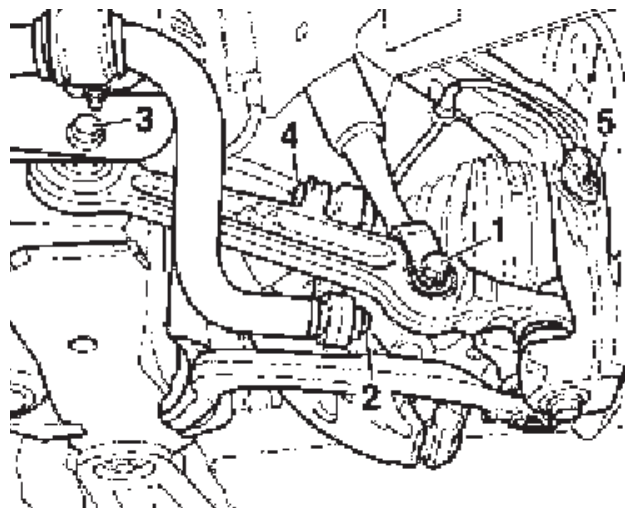

fig. 2
2. Remove lower shock bolt from track control link (bolt 1 in fig. 2).
3. Disconnect the stabilizer bar (bolt 2 or 4 in fig 2).
4. Unbolt the track control link from the chassis (bolt 3 in fig. 2).
5. Loosely install the clevis bolt into the lower control arm (figs. 2 and 3). Also, loosely reinstall the track link to chassis bolt (fig 2 and 3). Loosely reattach the sway bar (fig. 2). **Do not tighten these at this time.**